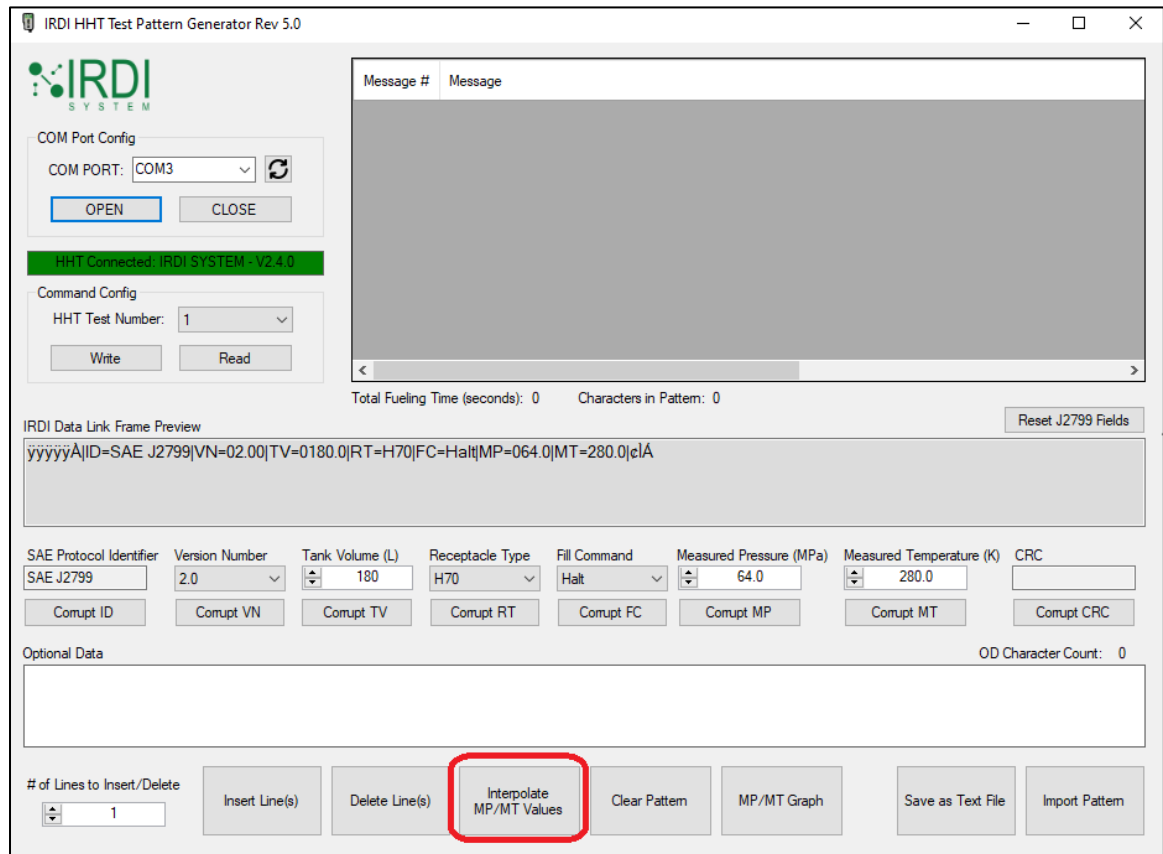

FIGURE 6-26 HHT TEST PATTERN GENERATOR SOFTWARE – INTERPOLATE
STEP 1	Click on the “Interpolate MP/MT Values” button – see Figure 6-26.